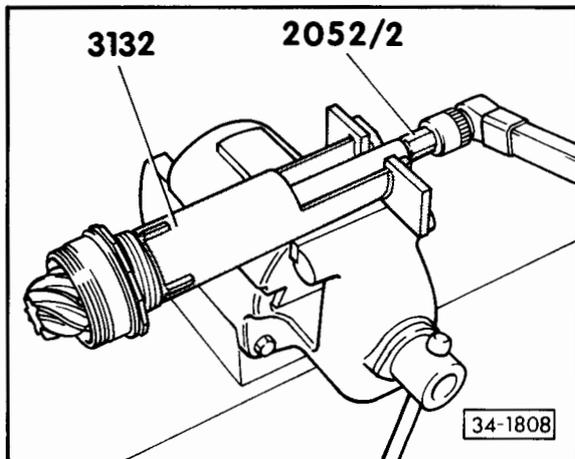

Fig. 2 Unscrewing and tightening slotted nut
- Unscrewing, final drive with selectable 4WD – Fig. 2
- o adjusting - Fig. 2
- o install so that bellows sits correctly at the front - Fig. 2
◀ Fig. 2 Adjusting front bellows